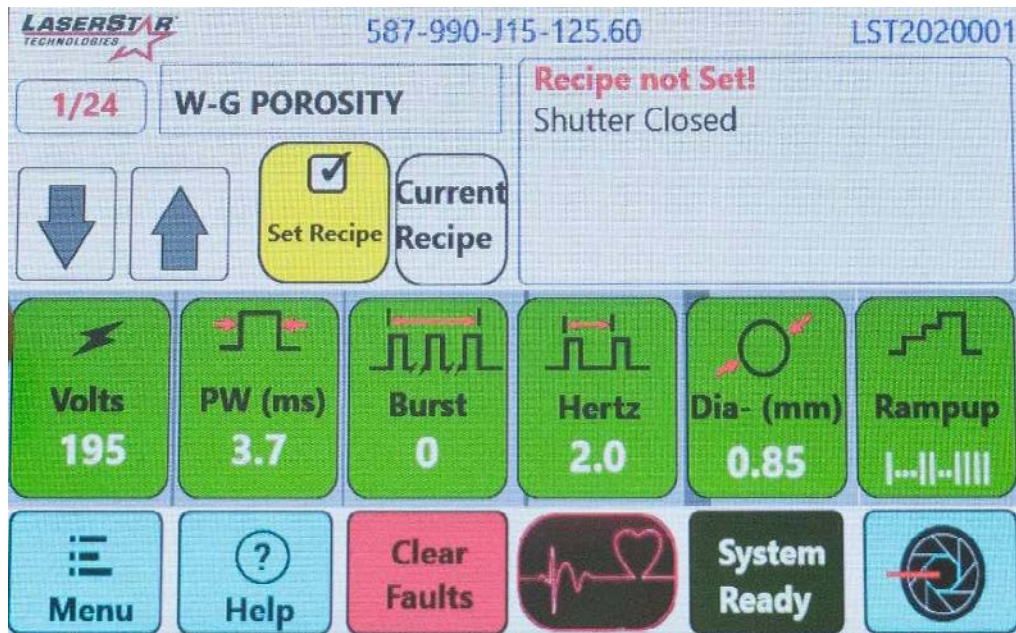

Figure 1
1. Press "MENU" on Main Screen **(Figure 1)**